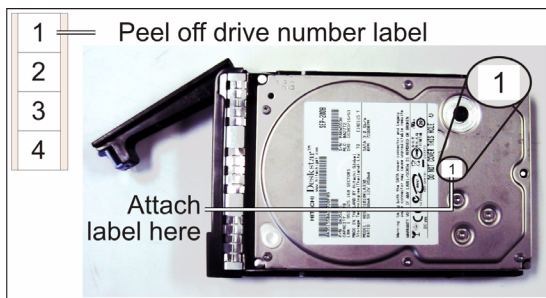

Figure: 5
2. Locate the drive number labels in the replacement hard drive kit. Peel off the number the corresponds to the failed hard drive and attach the label to the new hard drive as shown in figure 5.